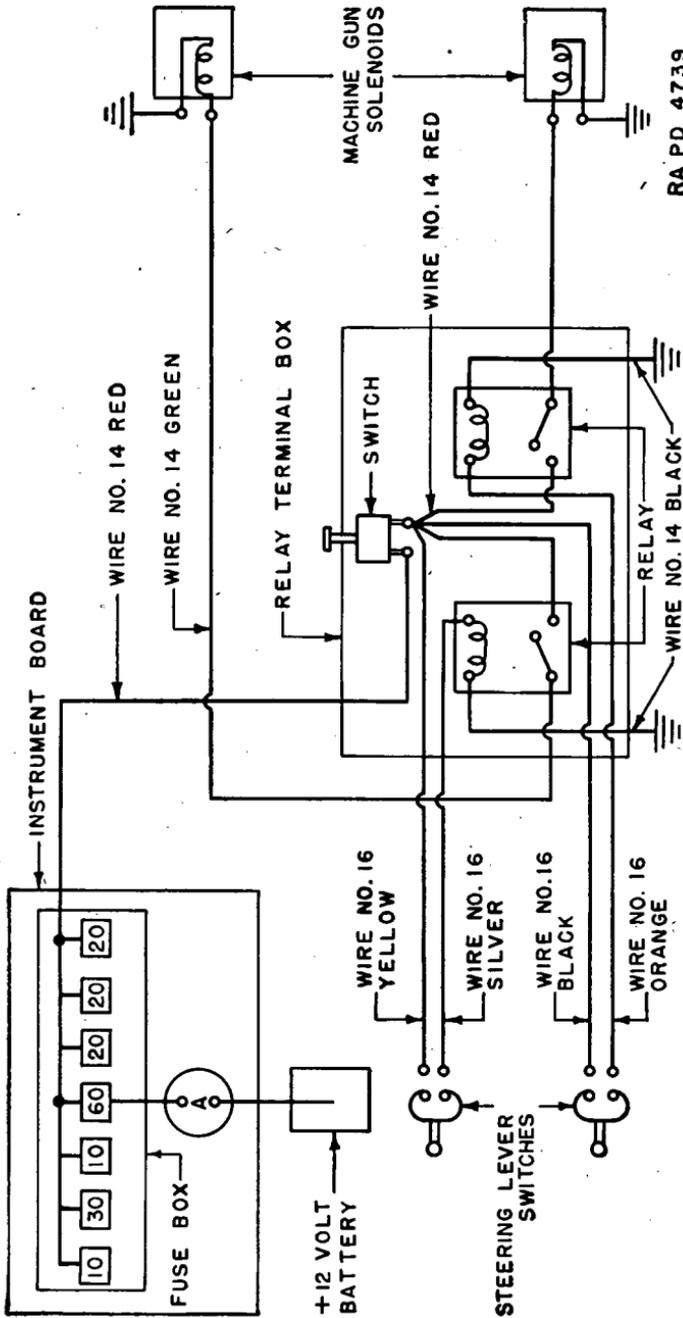

FIGURE 100.—Wiring diagram, sponson machine guns.
j. *Steering lever gun firing switch* (fig. 100).—(1) *Operation*.—Each steering lever has a lever-operated switch mounted close to the hand grip of the steering lever. When the switch is not in use, the lever operating it may be rotated downward, out of the way of the hand grip of the steering lever. To close a switch, rotate the switch lever to the up position and compress the switch lever against the hand grip of the steering lever. The switch on the left steering lever fires the left sponson machine gun and the right one the right sponson gun.
123. Sponson gun relays.—a. *Operation* (fig. 100).—Two relays are mounted in a box on the hull just below the machine gun in the left sponson. The electrical circuit to the relay is completed when both the push-pull switch on the relay box and the steering lever firing switch are closed. Use the following procedure in replacing a defective relay: